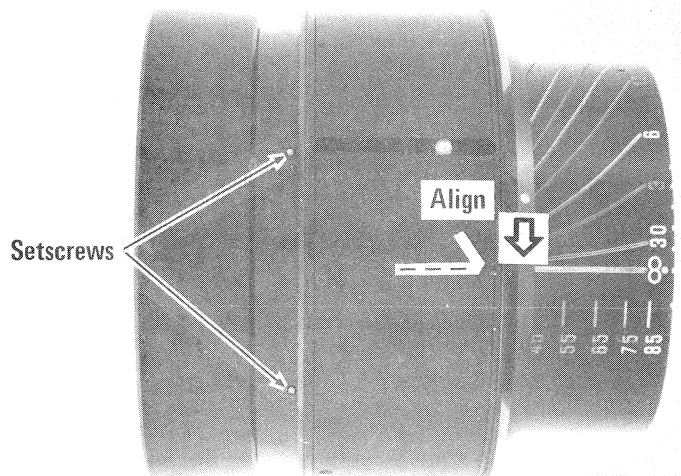

FIG. 5-13
2. HOLD middle helicoid against infinity stop; then rotate control collar to align the index dot with the infinity index line. Fig. 5-13.
3. Seal and tighten six setscrews securing the inner focus ring to the middle helicoid. Fig. 5-13.